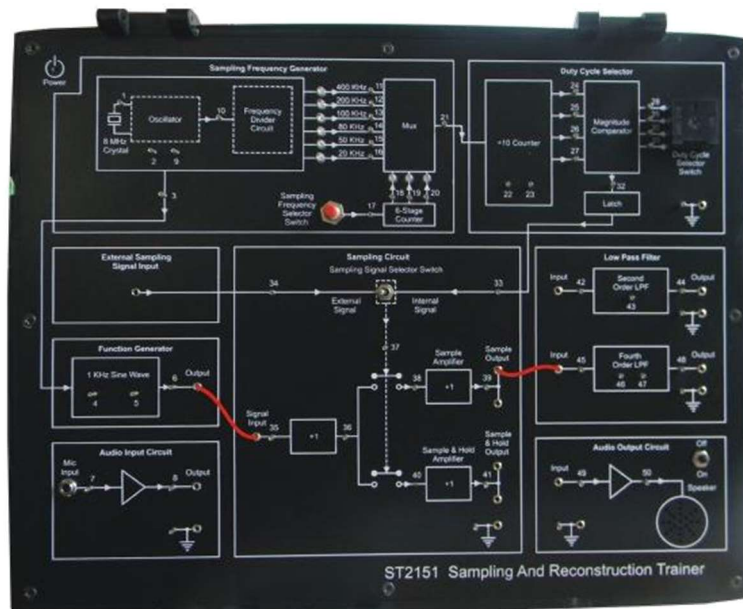

Fig. 1.2. Connection diagram for reconstruction of a sampled signal
9. Connect Sample Output to Fourth Order low pass filter Input as shown in figure 1.2. Observe the filtered output (TP48) on the oscilloscope. The display shows the reconstructed 1 KHz sine wave.